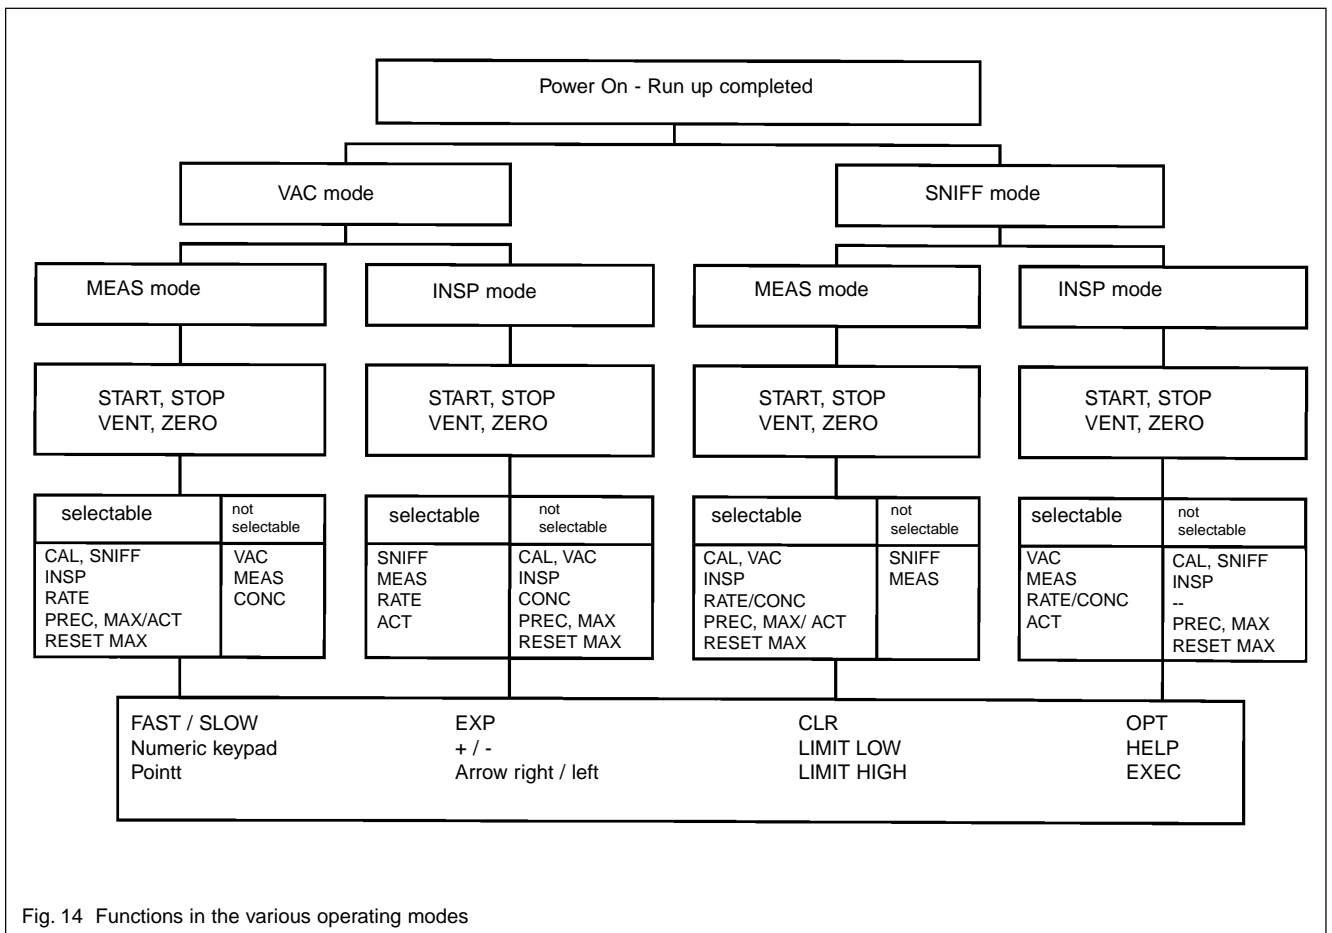

Fig. 14 Functions in the various operating modes
The STOP and VENT displays (8/9) indicate the mode which the unit is in after the „STOP / VENT“ key (7/14) has been actuated for a short or long time (see Fig. 14).
In each of these modes, the UL 500 can operate in the inspection mode (INSP) or measurement mode (MEAS). See Fig. 14.